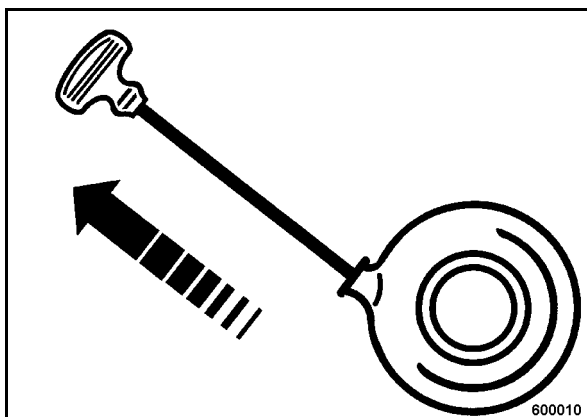

Fig. 23
- Pull the rope by the starter handle quickly and powerful as far out as possible (Fig. 23).